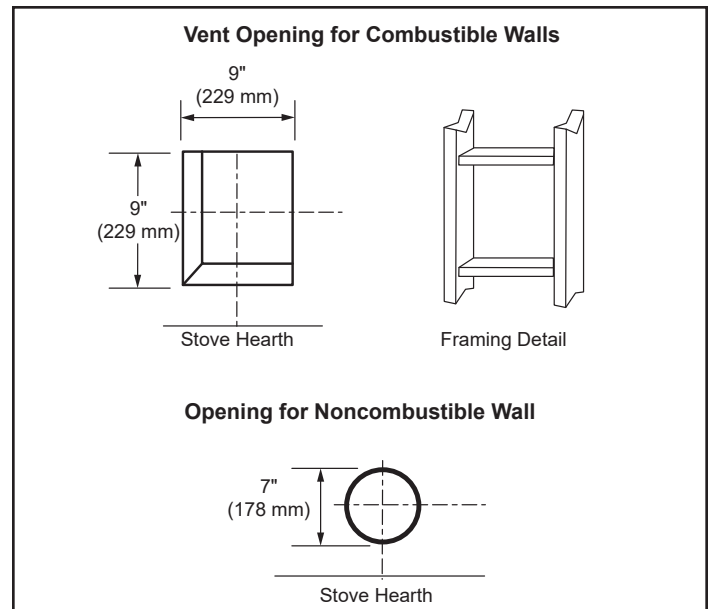

Figure 3.11 - Locate Vent Opening on Wall
1. Locate vent opening on the wall. It may be necessary to first position the stove and measure to obtain hole location. Depending on whether the wall is combustible or noncombustible, cut opening to size, Figure 3.11 (For combustible walls first frame in opening.) Combustible Walls: Cut a 9" H x 9" W (229 x 229 mm) hole through the exterior wall and frame as shown, Figure 30. Noncombustible Walls: Hole opening must be 7" (178 mm) in diameter.